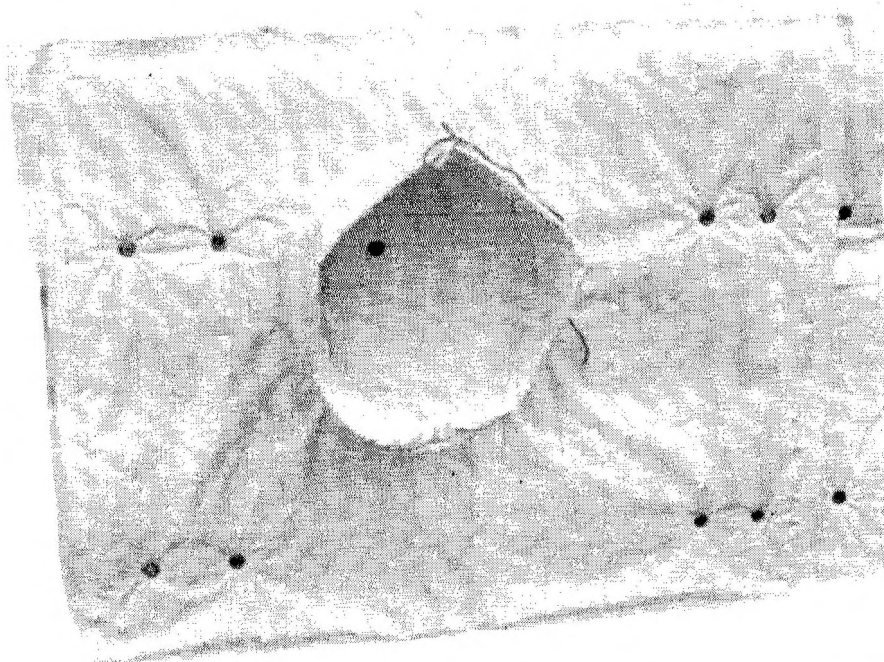

Figure 69: ECU Insulation panel (Typical arrangement) (J11/8340-99-727-5236)
76. If an Environmental Control system is to be fitted a replacement insulation panel can be attached to align with the opening on the cover sheet Fig 69. Release the bottom tensioners and fold the insulation wall panel up between the panel and the cover. Slide the ECU panel into position and fasten into place with tensioners.